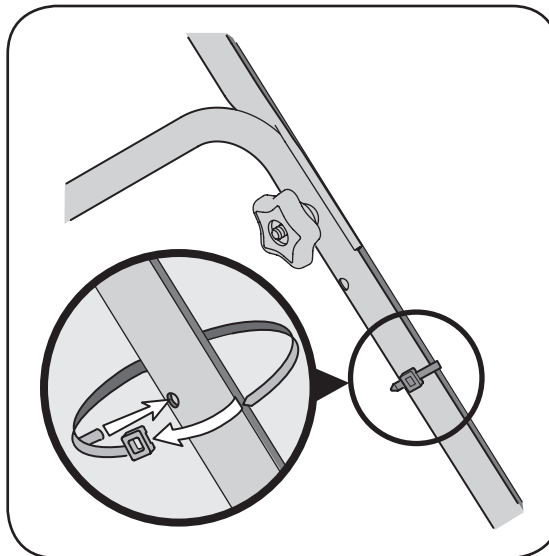

Figure 3-5
5. Use the cable tie provided to secure cable to the lower handle. Pull cable tie tight and trim excess. See Figure 3-5.